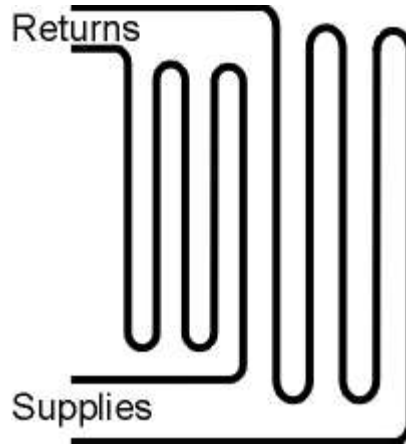

Figure 3
2. Variations in Serpentine coils. Serpentine coils are most often installed with a common supply header buried in the pavement, and the individual coil returns brought to a convenient place and connected to a return header that is outside the pavement. *Figure 3* shows an example. Each coil end is valved, so the flow through